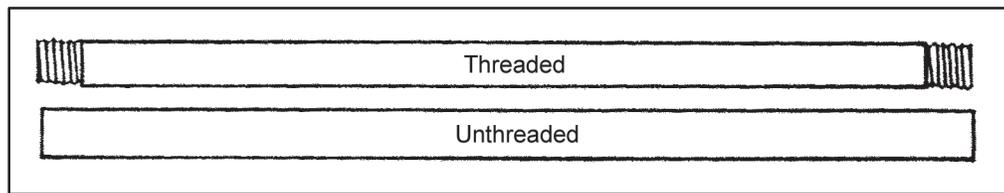

Figure 6-19. Galvanized-steel/iron pipe
6-46. This pipe comes in three strengths: (1) standard, (2) extra strong, and (3) double extra strong. The definitions Schedule 40 and Schedule 80 also describe pipe strengths. Schedule 40 standard is most commonly used in plumbing. Pipe diameter sizes (nominal pipe sizes) are 1/8 inch to 12 inches, also referred to as iron-pipe size. The pipe comes in 21-foot lengths, threaded or unthreaded (figure 6-19).